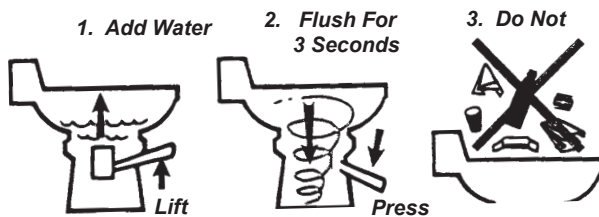

Figure J-5: VacuFlush Operations
The VacuFlush® toilet operates in a different way from other marine toilets. VacuFlush® systems use a small amount of water (a little more than a pint) per flush in addition to a simple vacuum. The toilet is connected to the fresh water system. Fresh water is the key to an odor free bathroom compartment. VacuFlush® toilets are equipped with an integrated vacuum breaker which prevents the possible contamination of the potable/fresh water supply. See Figures J-5 & J-6. Also refer to the manufacturer's literature included in the owner's packet.
1. To add water to the toilet before using, raise flush lever until desired water level is reached. Generally, more water is required only when flushing solids. See Figure J-5.